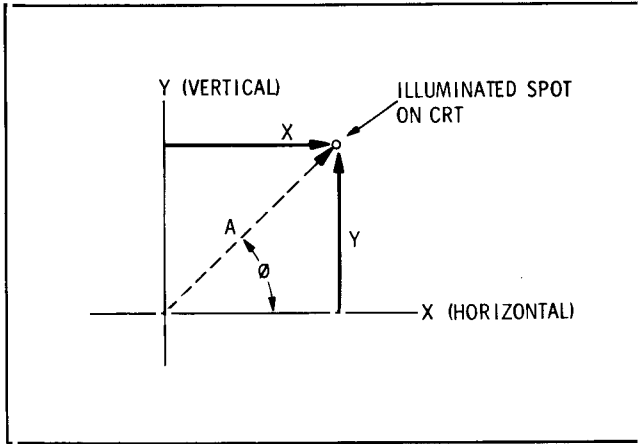

Figure 8-8. Horizontal and Vertical Vectors Required to Deflect CRT Beam
that can be displayed on the CRT. This is done by producing an illuminated spot on the CRT where the arrowhead of the vector would appear. (See Figure 8-8.) This can be interpreted into amplitude (A) and phase (ϕ) by the use of the built-in polar graph on the face of the CRT.
To produce the illuminated spot on the CRT, the amplitude and phase of the polar signal must be resolved into X (horizontal) and Y (vertical) rectangular components as shown in Figure 8-8. These X and Y signals are applied to the horizontal and vertical deflection plates producing a spot on the CRT representing the arrowhead of the vector.